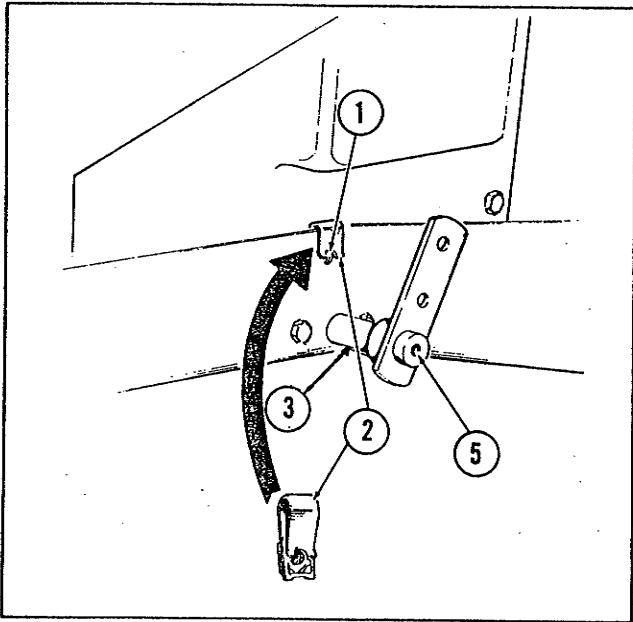

Figure 1.
1. On right side of tractor frame, locate mounting hole, (1, Figure 1) above lift lever shaft and at upper edge of tractor frame. With nut on inner surface of frame, align nut retainer (2, Figure 1) with mounting hole.
2. Remove two cap screws, (3, Figure 1) from each side of lift lever shaft and, using removed cap screws, mount quadrant assembly (4, Figure 2) to side of tractor frame. Insert a cap screw (4, Figure 3) and lockwasher (19) into upper mounting hole of quadrant and tighten into nut retainer installed in step 1.
3. Try cap screws (21 and 24, Figure 3) in lift lever mounting hole (5, Figure 1).